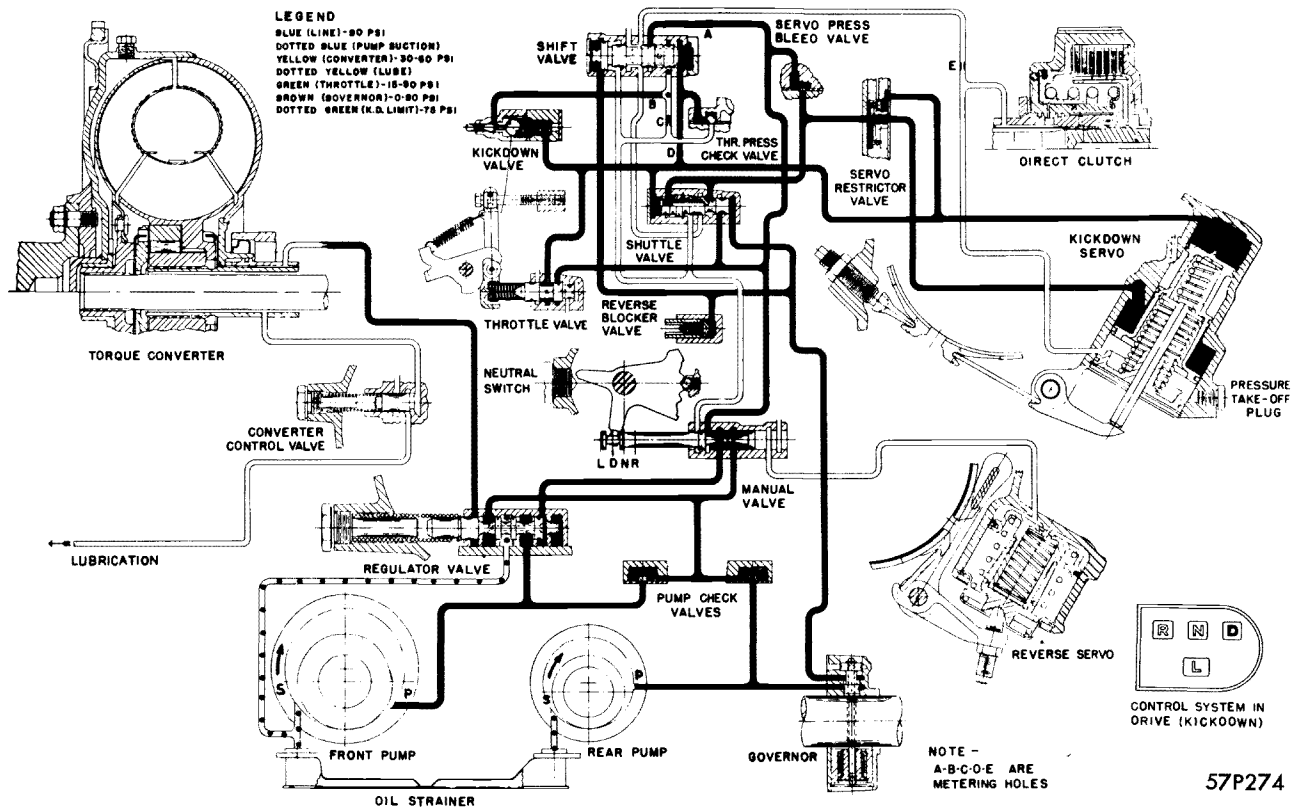

Figure 46—PowerFlite Oil Flow Diagram (Drive—Kickdown)
DRIVE—DOWNSHIFT—Downshifting (kickdown) the transmission to low, selector lever in Drive (D), is accomplished by the addition of a kickdown valve in the system, as shown in Figure 46. The valve includes a valve ball, valve spring and kickdown valve rod. The Kickdown valve spring and throttle pressure hold the ball seated in its closed position at all times except during kickdown.